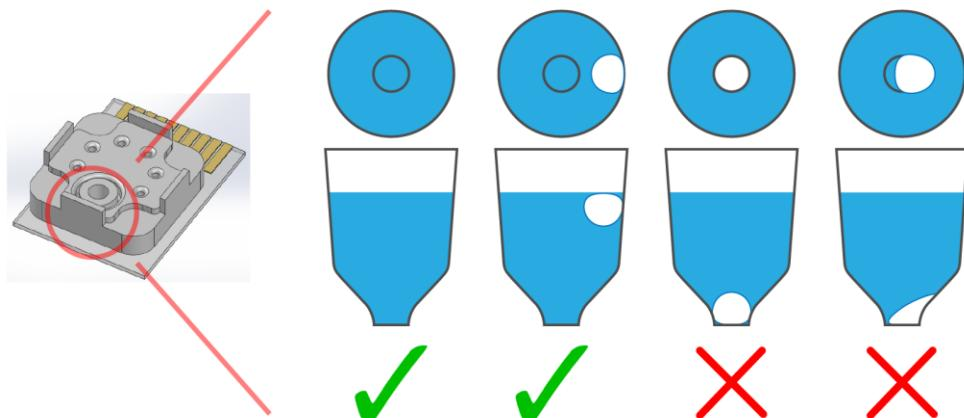

Figure 3. Any air bubbles in the analyte must not occlude the bottom of the reservoir.
- Pipette 3-5 microliters of the sample to be measured into the analyte reservoir on the analysis cartridge (Figure 3).
- ❖ Ensure that any air bubbles in the sample are acceptably positioned in the reservoir (see Figure 3).